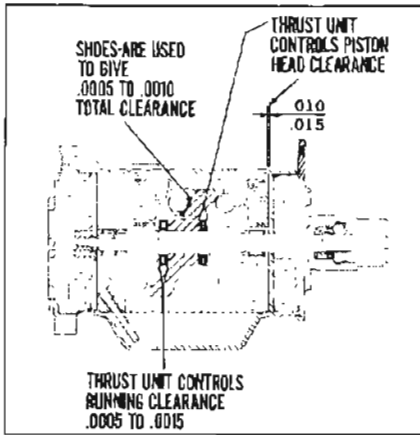

Figure 11-33—Compressor Needle Thrust Bearings and Races
Internal Clearances . . . . .	See Figure 11-33
5. Needle Thrust Bearing and Races—Two needle thrust bearings, each “sandwiched” between two races are located on either side of the swash plate hub. The front needle thrust bearing and races provide 0.010” to 0.015” clearance between the top of the pistons and the rear side of the front suction valve reed disc (see Figure 11-33). The rear needle thrust bearings and races provide 0.0005” to 0.0015” clearance between the hub of the swash plate